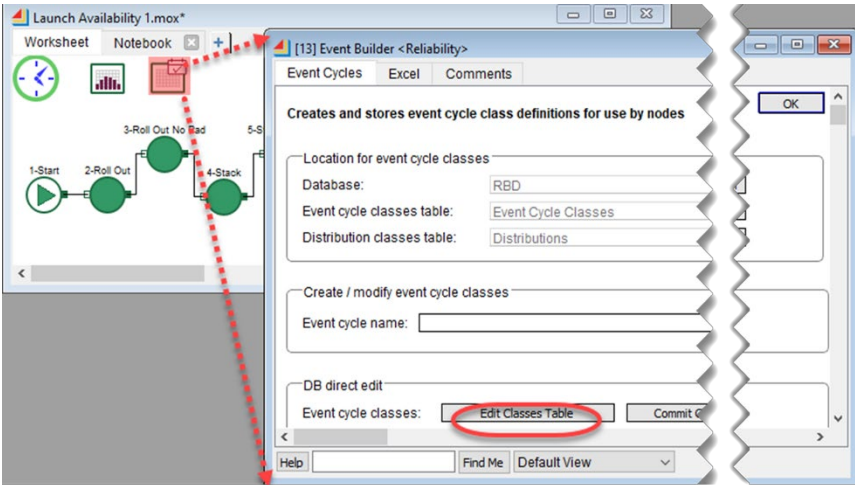

Figure 11-12: Event Builder dialog window
Step 8: Open the **Event Builder** dialog (see *Figure 11-12*) to define the events and for assigning their respective distributions.